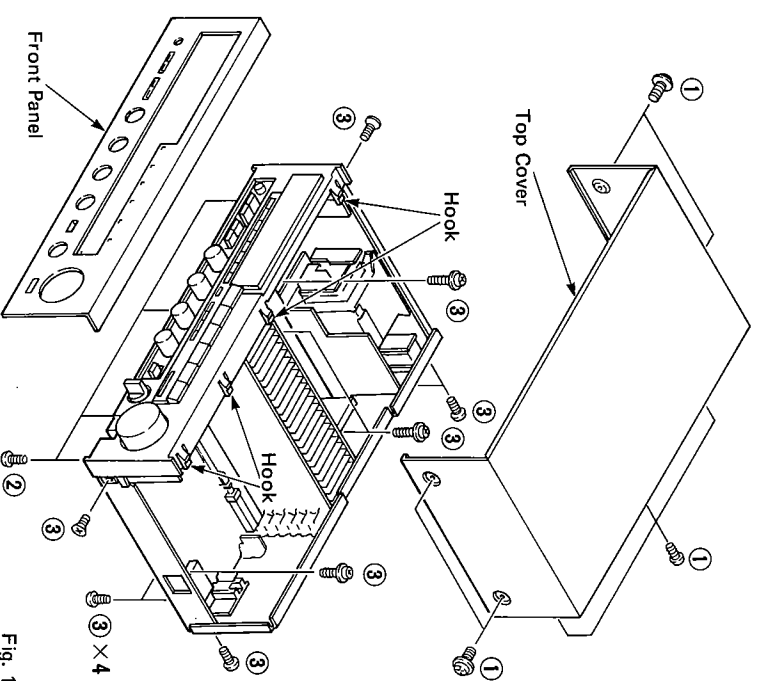

Fig. 1
Remove 7 screws ( 1 ) in Fig. 1, and slide the Top Cover back and up.
Remove 4 screws ( 2 ) and 4 hooks in Fig. 1, and pull the Front Panel forward.
- a. Remove 13 screws ( 3 ) in Fig. 1.